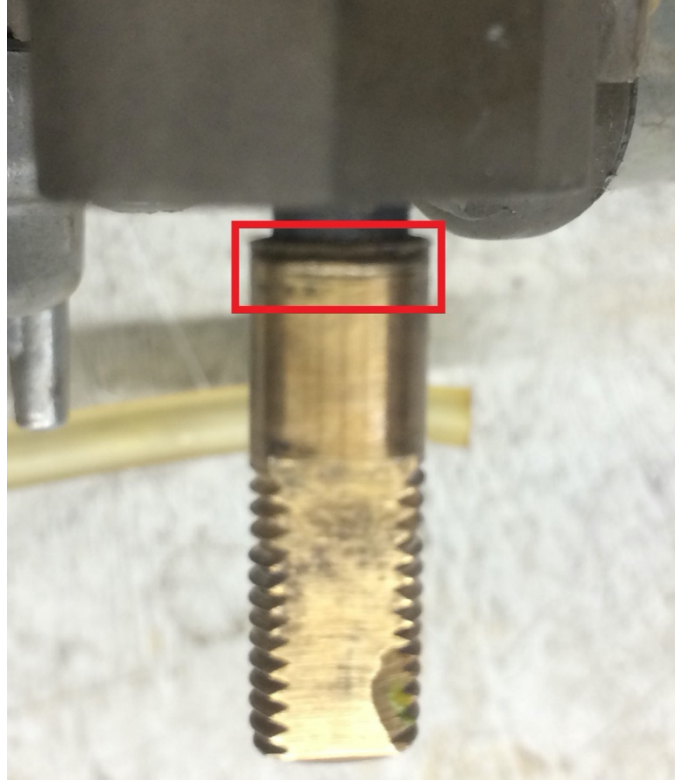

FIGURE 1: Wear on throttle shaft from throttle return spring
Step 1: Remove 942290 NUT, 845035 SPRING WASHER, THROTTLE ARM, and SPRING-00002-L/R-1. Refer to KAI 50-05 Figure 1 for detailed parts diagram.